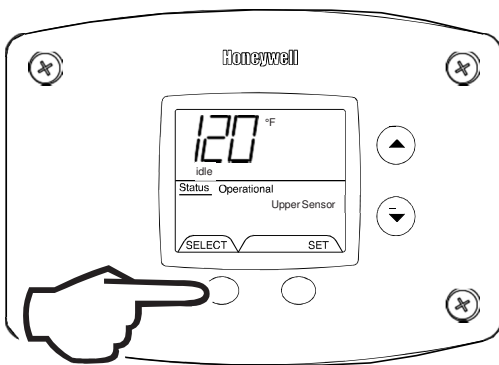

Fig. 45
- For water heaters using two temperature sensors, pressing the 'Select' button again displays the Upper Sensor temperature reading. 'Upper Sensor' will be displayed in the lower right side of the status window of the water heater display (Fig. 45).